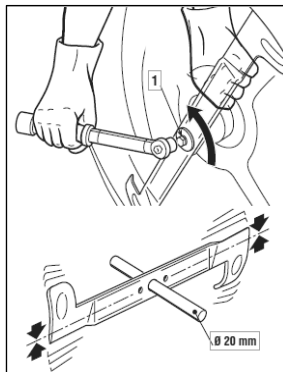

Figure 34
To remove the blade, hold it firmly wearing strong gloves and undo the central screw (Figure 34 ①).